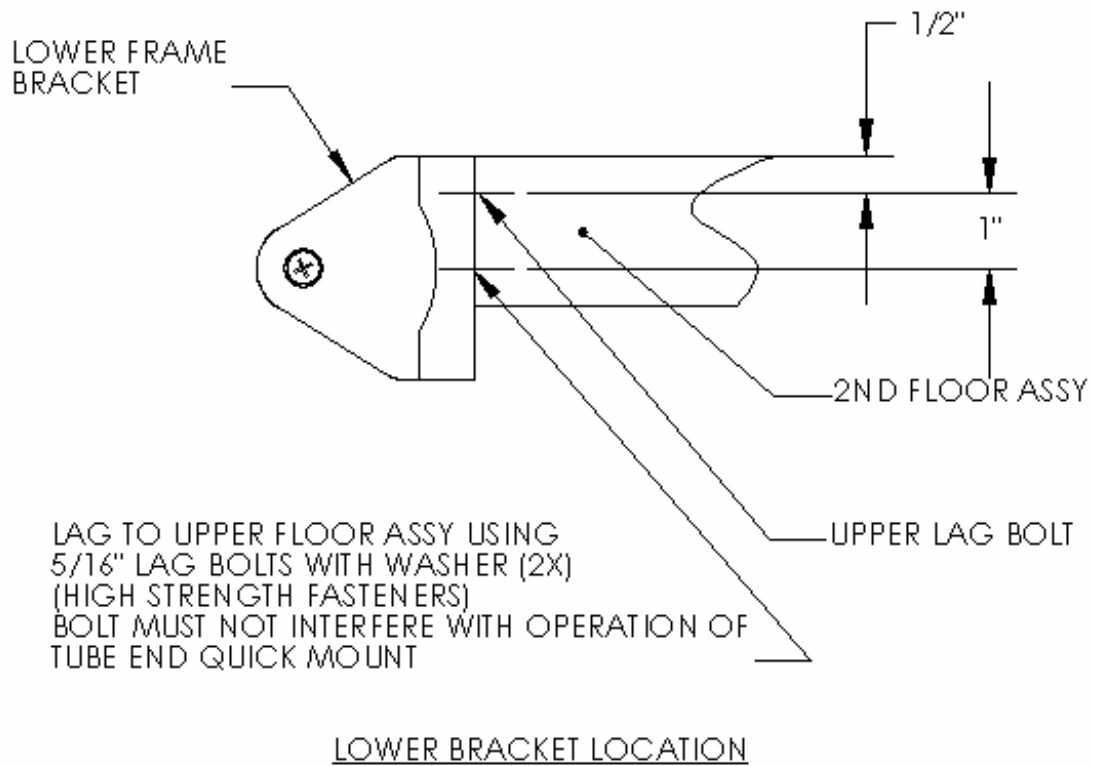

Figure 5 – Lower Bracket Mounting Detail
7. Using brackets as a template (**Fig. 3**), mark location of lower bracket mounting holes to be drilled. Note that only the upper and middle holes are used for mounting the lower bracket. The lower hole is not used. **Fig. 5**